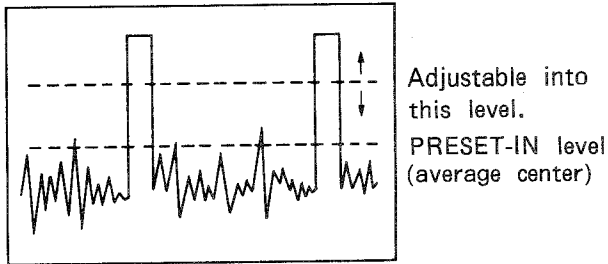

Figure 6. Example trigger level adjustment
TRIG LEVEL control ⑭ is provided to adjust the trigger levels of the input signals to CHANNEL A. If the adjust is pressed (set to the PRESET position), almost the average level of the input signals is selected as the trigger level. Almost the all the operations can be performed based on that trigger level. However, this level should be changed if the signal waveforms shown in figure 6 are processed. The trigger level to be selected by setting the controller to the PRESET position is indicated by the broken line at the bottom in the Figure. This trigger level is an average of the pulse string. However, this level nears the noise found in the signal waveform. As a result, it may cause a pseudo trigger error.